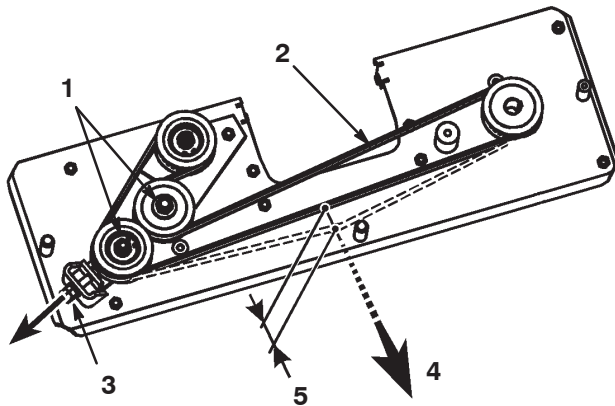

Figure 37
4. Loosen the 2 hex nuts on the idler pulley (Fig. 37).
5. Adjust the M10 nut until the belt flexes 5 mm with 30 N of force (Fig. 37).